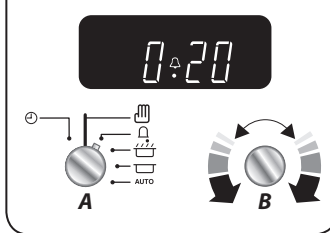

Fig. 2.4
3. Turn the **Timer (A)** knob to the **Manual (D)** setting to see the current time and the 'Bell' symbol on the display (**Fig. 2.4**).